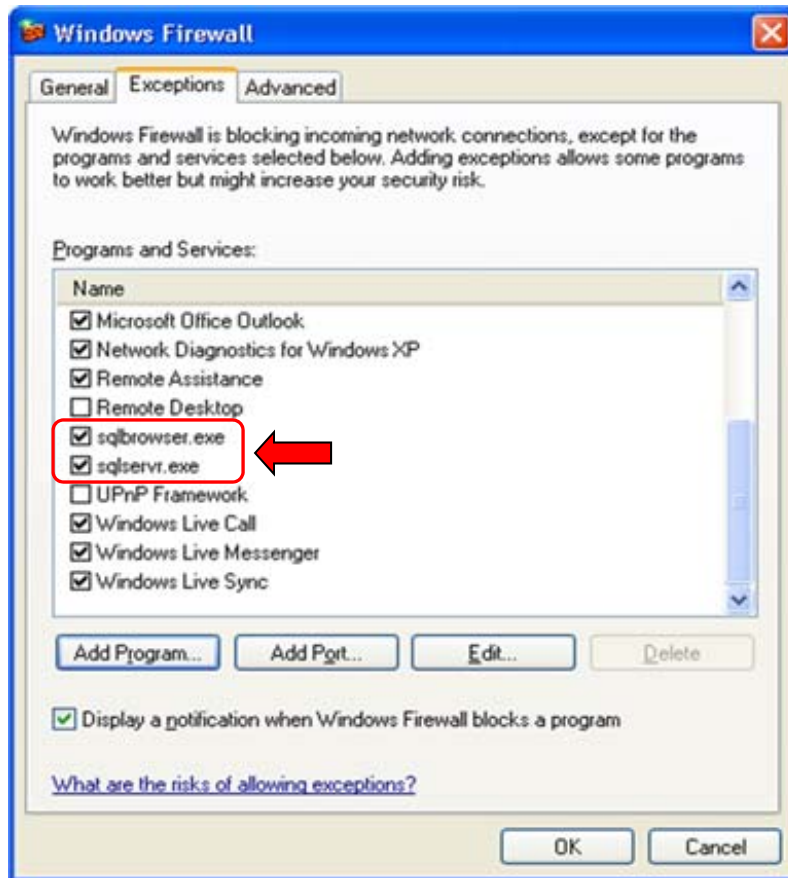

Figure III-16. sqlbrowser.exe and sqlservr.exe Files Now Included in Exceptions List
- h. On the Add a Program window, click **OK** to return to the Windows Firewall window (Figure III-16).